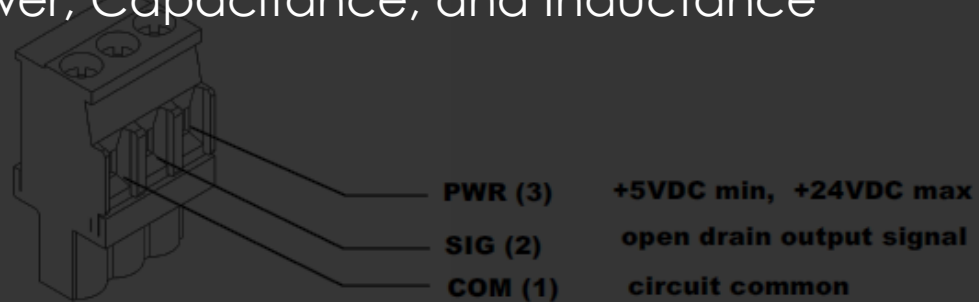

Figure 2.
4. Figure 2 shows the wiring order for the connector plug, WECO p/n 120-D-111/03.